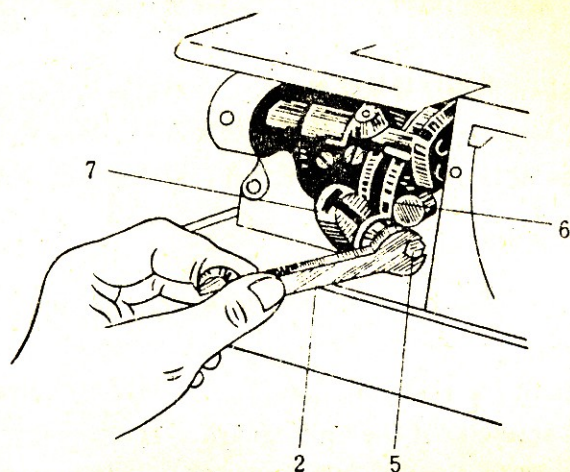

图 5
针迹的长度可根据工作物的需要在本厂规定的范围内调节。调节时首先旋转轮盘使针杆上升到最高位置，然后用本厂随机供应的搬头 2 向下旋松针距螺丝 5 (参阅图 5)，再将针距螺丝 5 连同抬牙架连杆 6 一起，在大开针架 7 的槽子里移动。这样就可以放长或缩短针迹。要放长针迹时，可将针距螺丝 5 向外移动；要缩短针迹时，可将针距螺丝 5 向里移动。调节完毕后仍将针距螺丝 5 旋紧。
The stitch length can be regulated according to the requirements of the work-piece, within the range specified by the manufacturer. Turn the balance wheel first until the needle bar is in its highest position, then loosen the stitch regulating screw stud(5) by turning it counterclockwise with the spanner(2) supplied with the machine (see Fig.5). Then move it together with the feed lifting link(6) along the slot of the feed regulator so as to obtain a longer or shorter stitch. To obtain longer stitch, move the stitch regulating screw stud(5) outward; to obtain a shorter stitch, move it inward. Then retighten the stitch regulating screw stud(5).